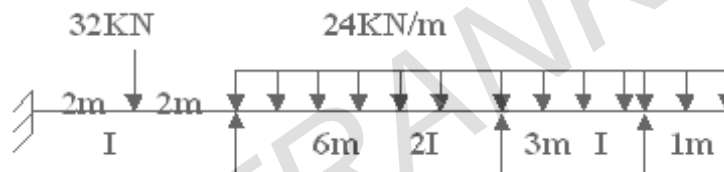

Figure 6
8. Determine the support moments for the continuous beam shown in figure 6 and draw BMD by using Kanis method. [16]